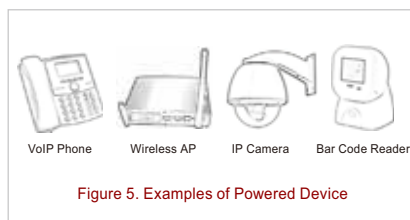

Figure 5. Examples of Powered Device
Powered Device (PD) (see Figure 5) is a device that receives power from PSE. More and more network attachments today, such as IP phones, wireless LAN access points and IP cameras are designed as a PD.